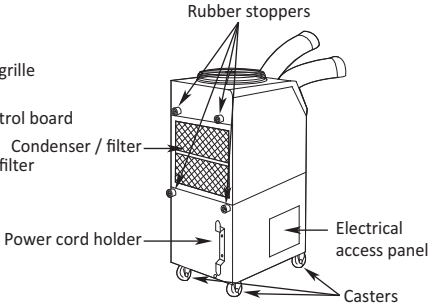

Figure 8 – Rear and Left Side View
2. Place the power cord holder on the rear of the unit as shown in Figure 8